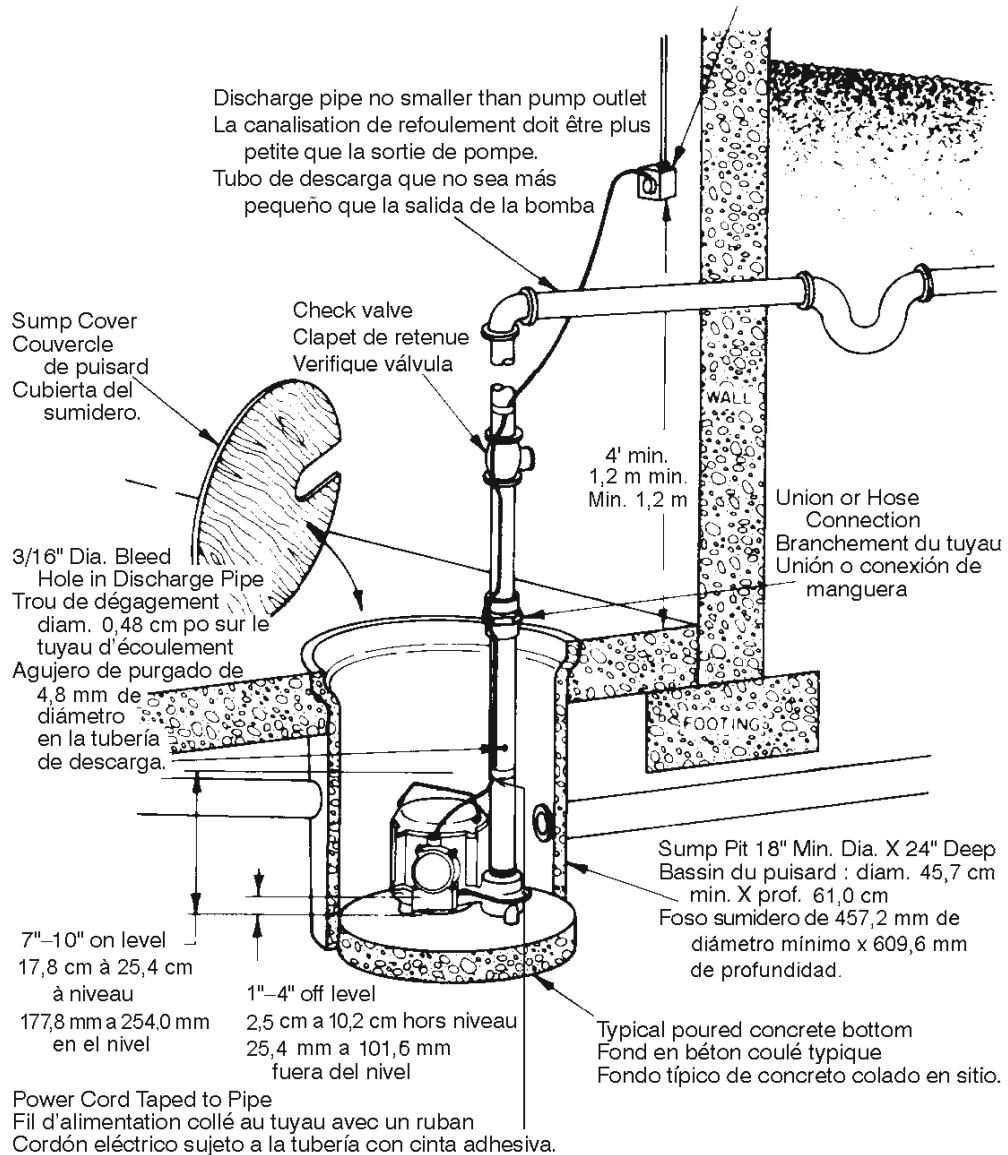

Figure 2 - Typical Installation
7. **TEST THE PUMP AFTER ALL CONNECTIONS HAVE BEEN MADE.** Run water into sump. Do not attempt to operate the pump without water; this will damage the seals and bearings and could result in permanent damage to the pump. Fill sump to normal ON level and allow pump to remove water to the normal OFF level (Figure 2).